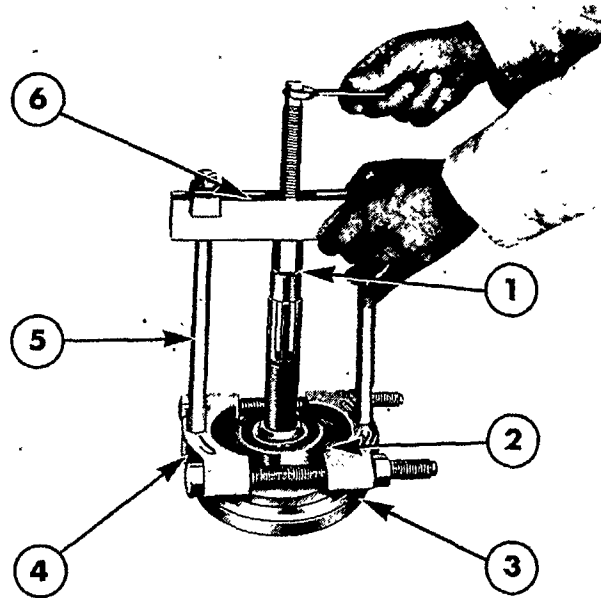

Figure 22
20. Examine the ring gear bearing for wear or damage. If necessary remove the bearing with Tool Nos. 930-B, 938, 952 and 630-S4 as shown in Figure 22. Take care not to damage the shim located behind the bearing. Ensure the shim is placed against the step on the ring gear shaft and then press the new bearing onto the shaft, using a convenient length sleeve of 82,6mm (3.25 in) internal diameter and 95,3 mm (3.75 in.) external diameter.